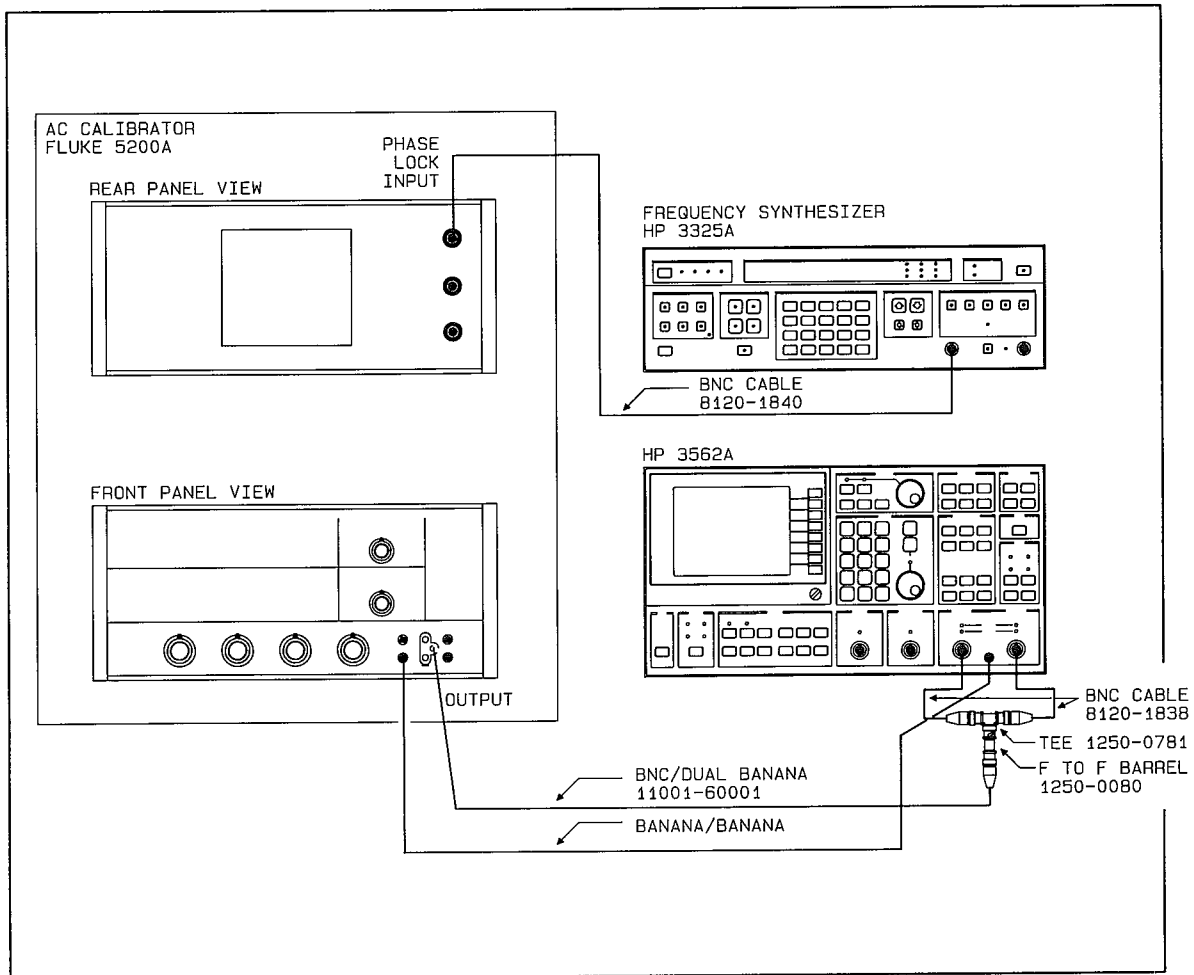

Figure 2-12 Amplitude Accuracy and Flatness Test Setup
- A. Connect the test instruments as shown in figure 2-12. Refer to "Initial Equipment Setup," paragraph 2-20, for unspecified parameters.